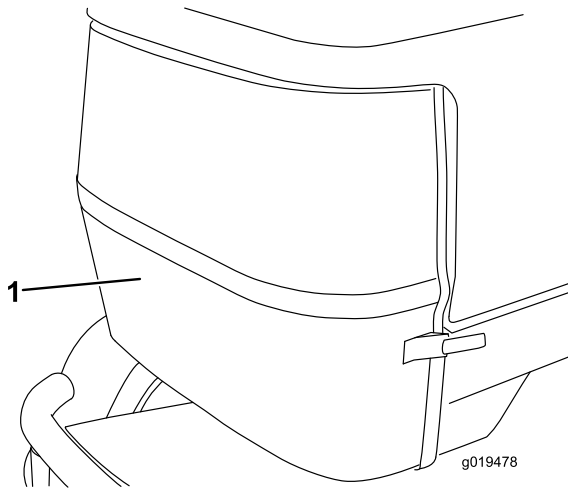

Figure 73
2. Unlatch and remove rear screen (Figure 73). Clean screen thoroughly.